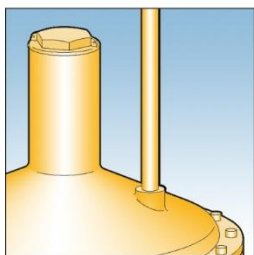

Fig. 3
2. Connect the vent line (1/2"), using a jointing compound approved to national standards, and lead to atmosphere in accordance with national standards. Ensure that no water can penetrate vent pipe. See Fig. 3.